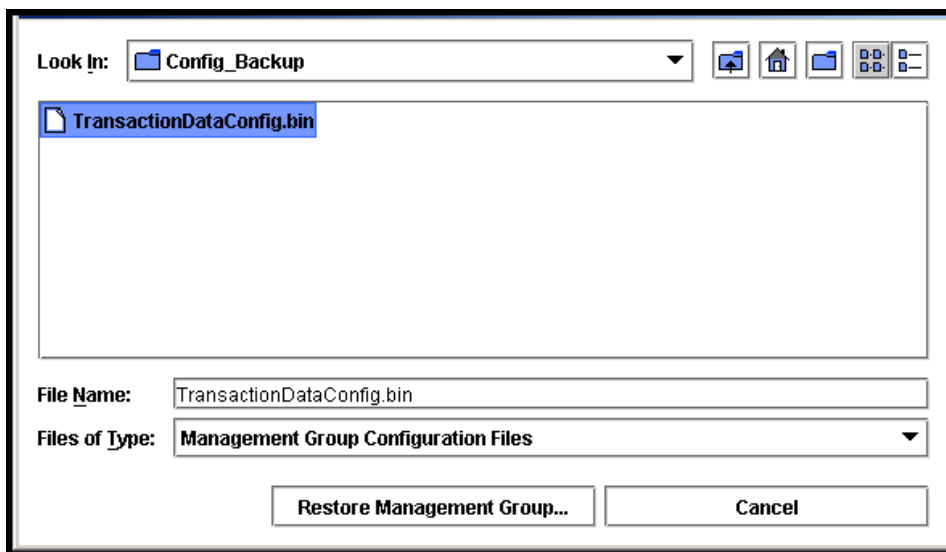

Figure 142. Opening the Configuration Binary File
2. Right-click in the Network view and select Restore Management Group. A standard Open window opens, shown in Figure 142.